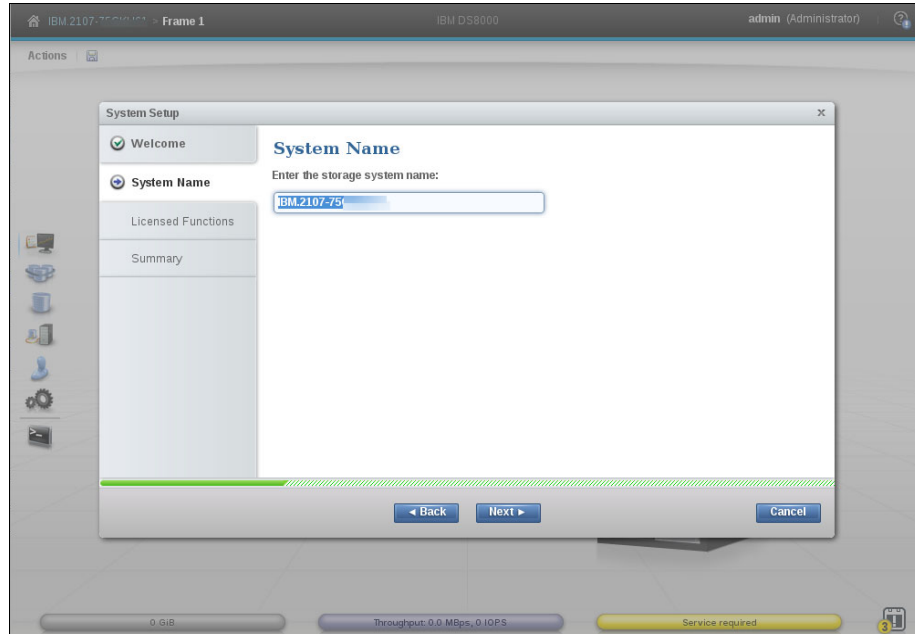

Figure 11-3 System Setup: System Name window
1. Click **Next**. The System Name window opens. The default entry is the storage system serial number, which is shown in Figure 11-3. The user can create a preferred system name that complies with the name convention that is used in their environment.